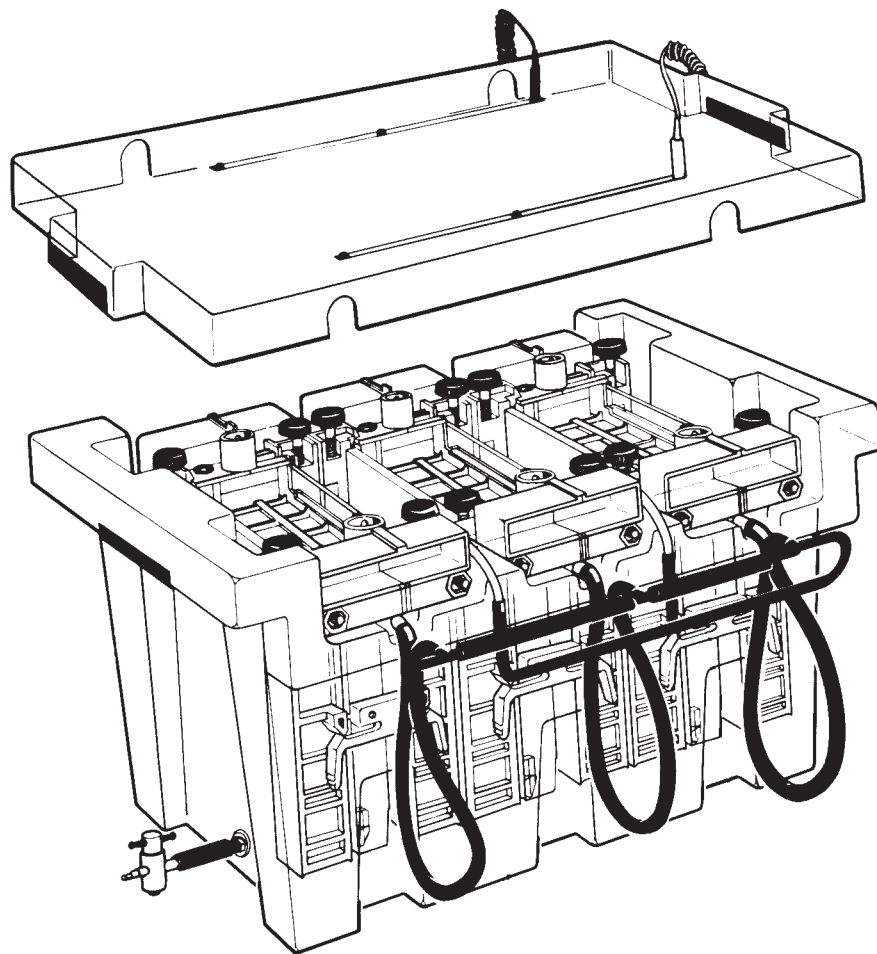

Fig. 1 Installation of cooling coils and cooling manifold
1. Place the two cooling coils into the lower buffer tank on either side of the center cooling core. The elbows of the cooling coils rest on the sides of the buffer tank (See Figure 1).
2. Attach the three long sections of one cooling manifold to the outlets of the three cooling cores on one side of the buffer tanks as shown in Figure 1. These sections are long enough to allow you to remove individual cooling cores when necessary, without detaching the manifold.